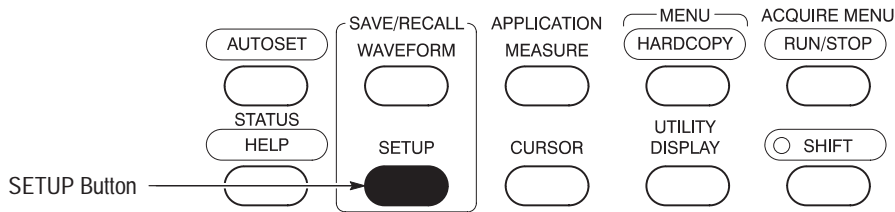

Figure 2-2: SETUP Button Location
1. Press the save/recall **SETUP** button to display the Setup menu (see Figure 2-2).